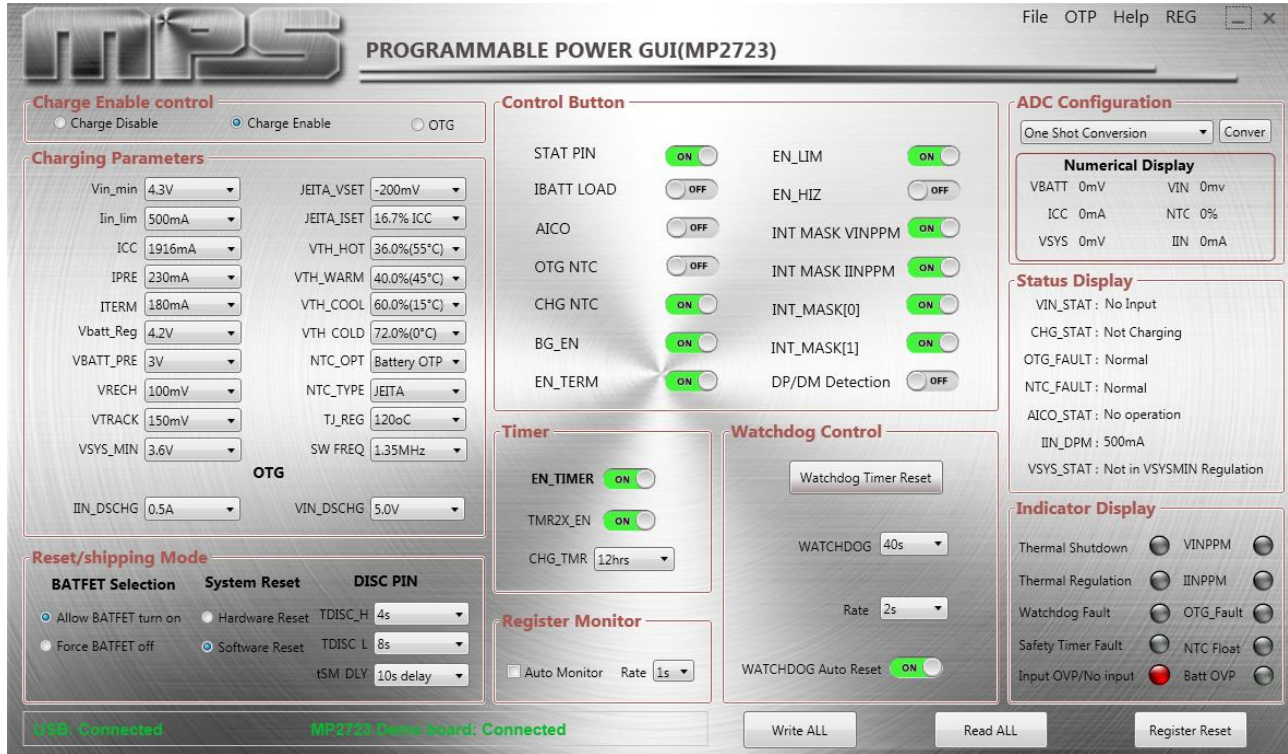

Figure 7: Connected USB and MP2723 Demo Board
- If the connection is successful, both the USB and MP2723 demo board statuses will be listed as “Connected” (see Figure 7).
2. Click the “Read All” button to read the I2C register values. The default values are displayed (see Figure 7).